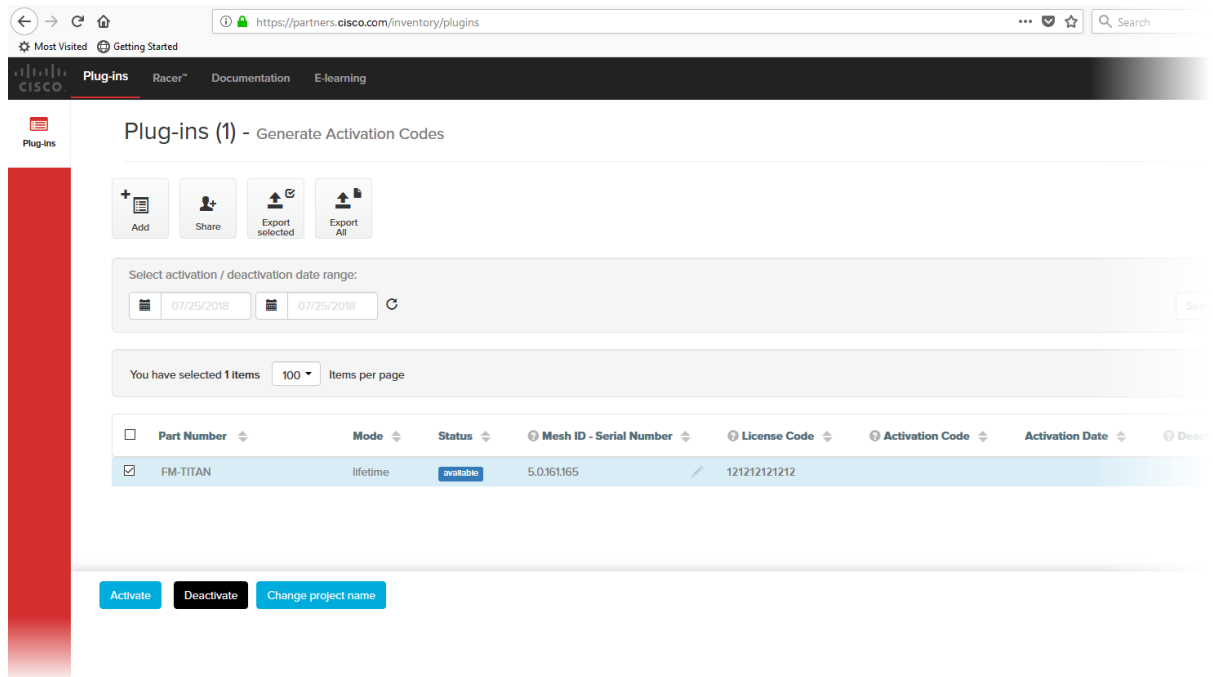

Figure 66. Partner Portal Plug-ins page (License code plug-in)
- When you purchase a generic 16-digit *License code*, the License code and corresponding plug-in will be listed on the Plug-ins page (Figure 66 \(page 154\)).